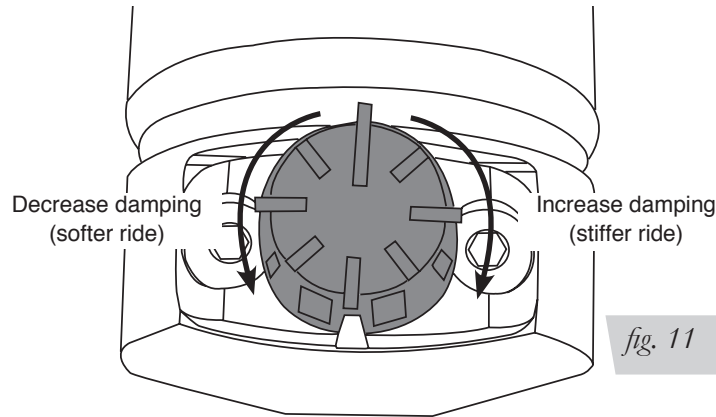

fig. 11
1. Some struts for this vehicle come with a nine-position damping dial for added adjustability (fig. 11). If not, proceed to 2.